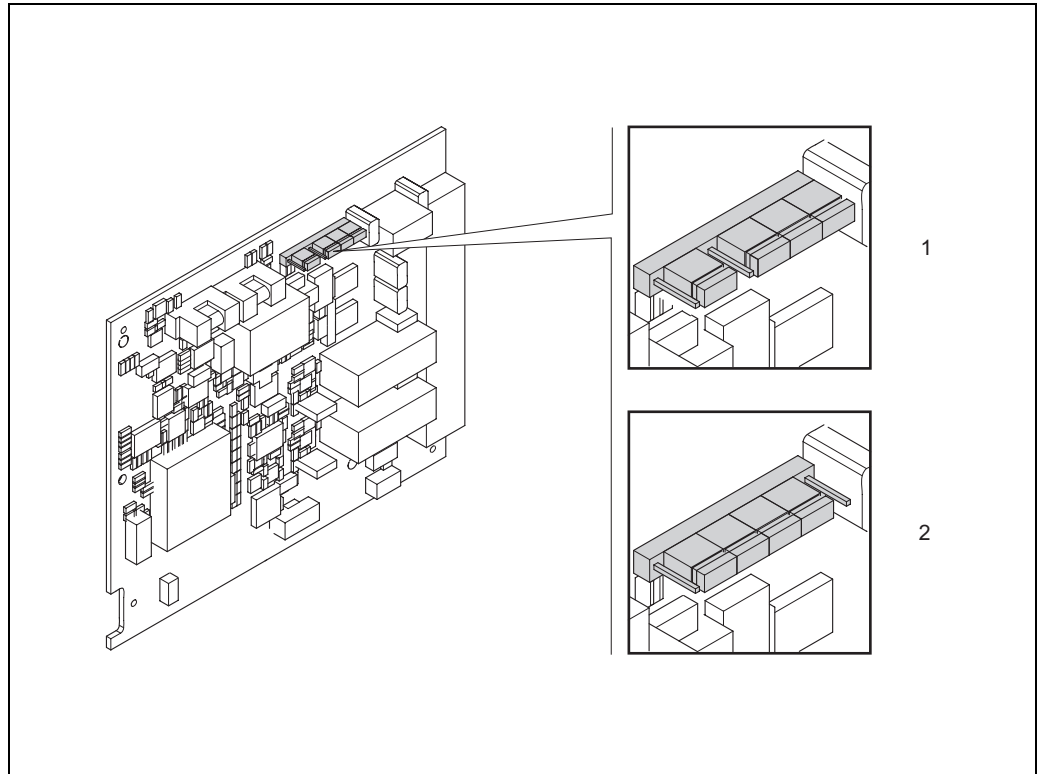
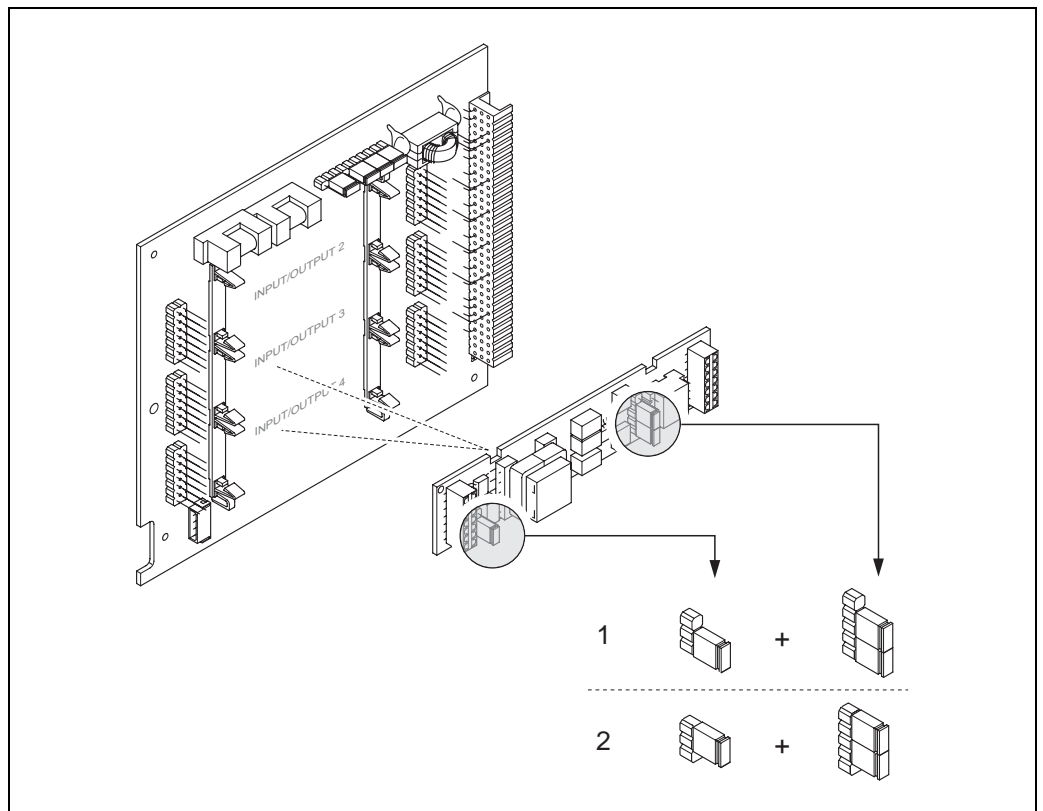

Fig. 52: Configuring the current output with the aid of jumpers (fixed I/O board)
Fig. 53: Configuring the current input with the aid of jumpers (I/O board)
3. Position jumpers → Fig. 52, Fig. 53